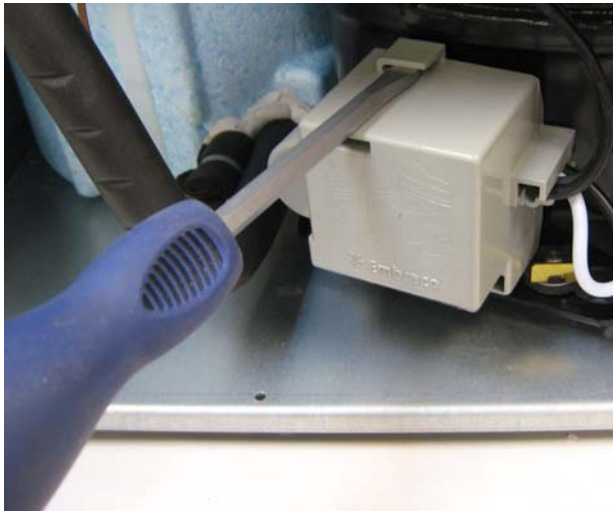

Figure 1
- STEP 3:** Remove the plastic electrical cover from the compressor by inserting a flathead screwdriver into the slot on the top face and pushing down on the handle (See Figure 1). The wires can then be slid out of the slot in the right hand side and the cover can be removed by pulling towards the front of the unit.